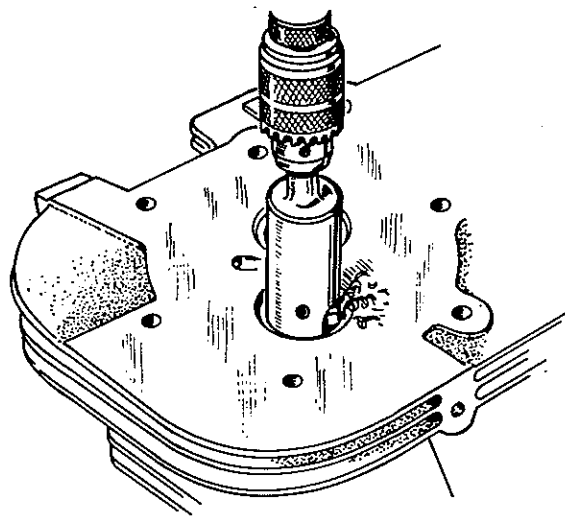

FIGURE 15-12. REMOVING VALVE SEATS — J-SERIES
2. A valve seat remover mounted in a drill press should be used to remove valve seats from J-series engines, Figure 15-12. Set the tool to cut 1/64 inch (0.40 mm) from the edge and bottom of the seat. The remaining rind is easy to remove.